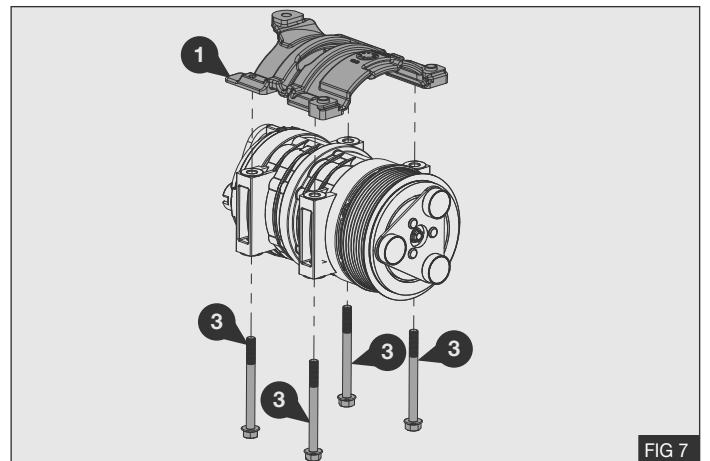

FIG 7
1. Install the compressor to the mount bracket (1) using the supplied M8 x 90 bolts (3) - Fig.7
2. Torque the four bolts (3) to 17Nm / 13lb.ft. using a calibrated torque wrench.